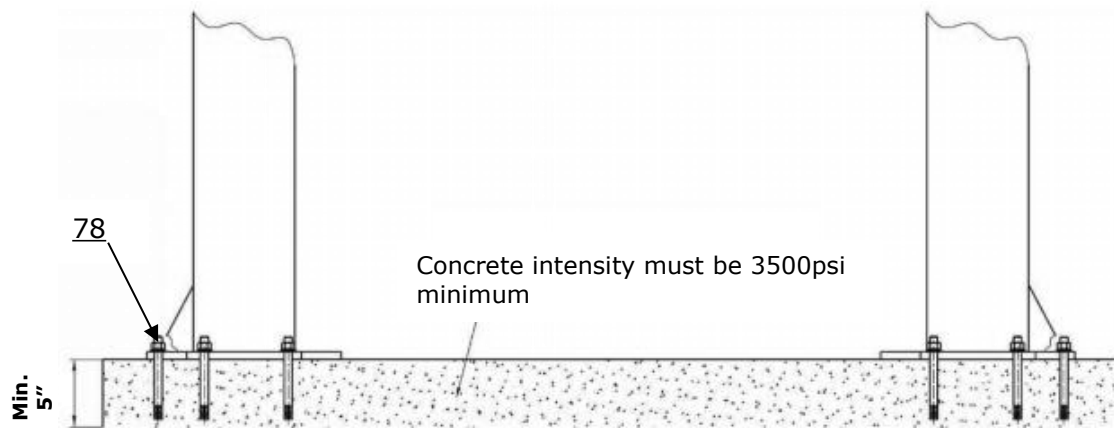

Fig.7
D. Specifications of concrete (See Fig. 7).